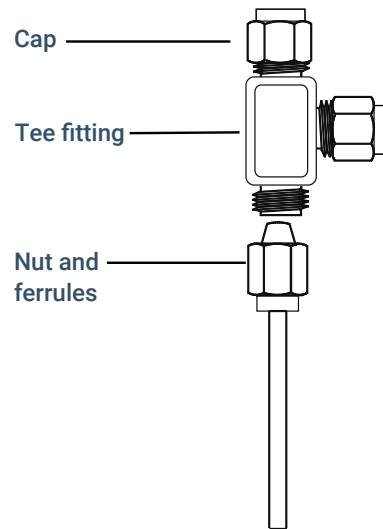

Figure 23. Swagelok tee
1. Cut the tubing where you want to install the Tee. Connect the tubing and Tee with a Swagelok fitting. See **Figure 23**.